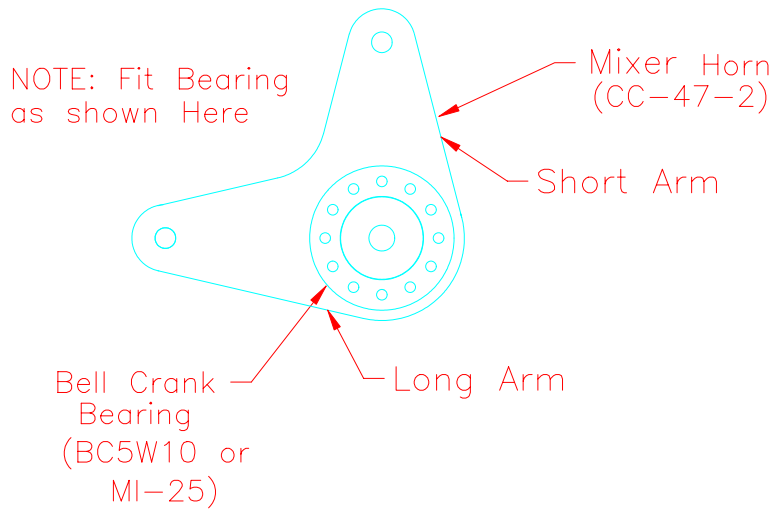

Figure 15.6.3
4) Use the Bell Crank Bearing (MI-25) as a drill guide to drill twelve #30 holes into the mixer (CC-47-2). Figure 15.6.3.